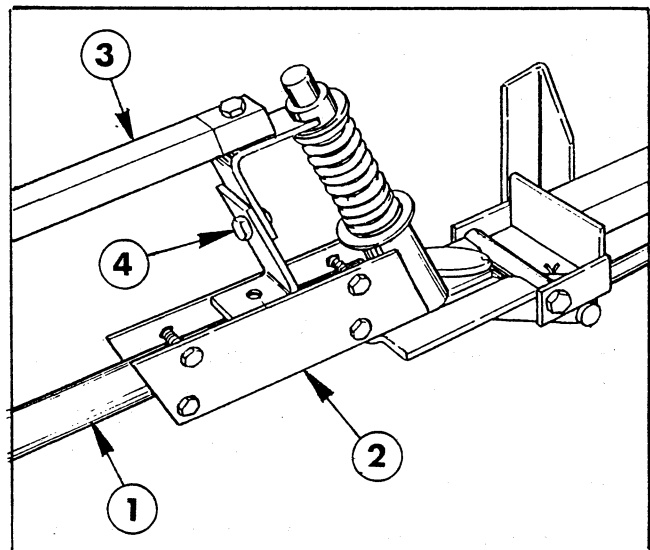

FIG. 7
8. Insert an Extension Boom Pipe into the Pivot Assembly and secure with four 1/4"x 1-1/4" hex hd cap screws and lock nuts. See FIG. 7. Repeat on the opposite side to assemble the other Extension Boom.